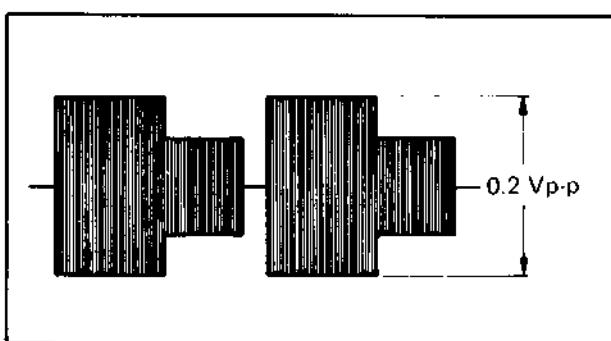

Fig. 5-28 Playback color level
3. Adjust R52 (P. B. COLOR LEVEL) of Pre/Rec board so that the level of TP-202 is 0.2 ± 0.02 Vp-p as shown in Fig. 5-28.